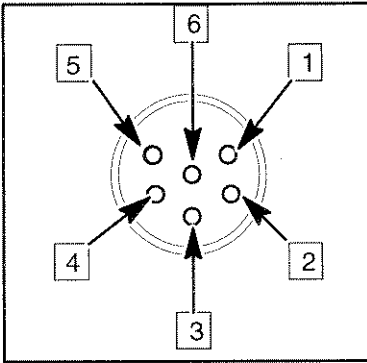
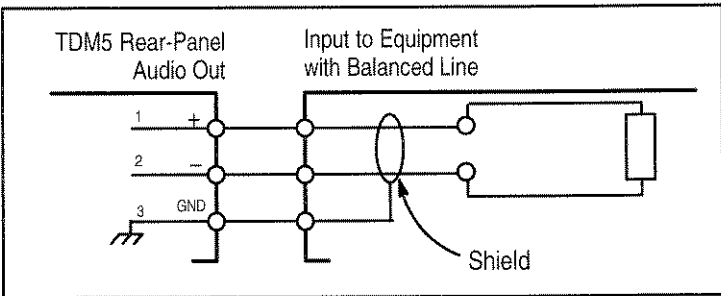

Figure 1-3: TDM5 Audio Output Pin Numbering
Figure 1-4: Audio Output Connection for Balanced Inputs
3. Connect the VIDEO OUTPUT signal of the TDM5 to the input of a picture monitor, waveform monitor, or other monitoring equipment. The Tektronix 1780R or 1740A can be used for this purpose. Connect the AUDIO OUTPUT to desired equipment for monitoring the signal. Figure 1-3 shows the pin numbers of the AUDIO OUTPUT connector; Figures 1-4 and 1-5 show two different hookups.